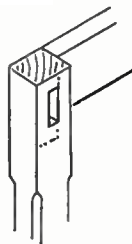

Fig. 1
The legs are cut from 2in. square timber, and the horizontal rails are 1in. thick. The rails are tenoned into the legs as in Fig. 1. Note that the face sides of these rails should come level with those of the legs, so cut the tenons accordingly as at (A), where the wood is reduced to half thickness, cutting from the face side.